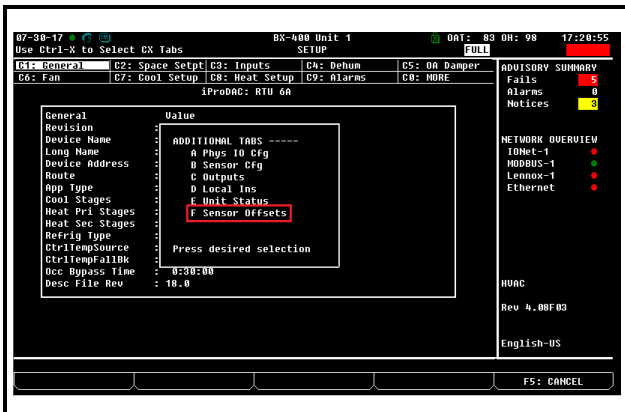

Figure 7-8 - iProDAC Setup Screen in E2 - Ctrl + 0 Tab Menu Sensor Offsets
3. Press % SETUP to access the iProDAC Setup screen (Figure 7-8).